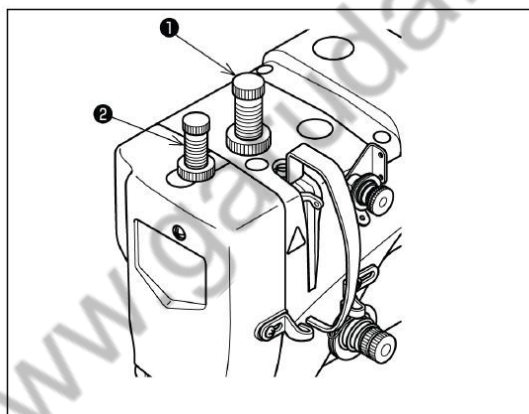

Fig.15
Adjust the presser foot pressure according to the sewing product. The pressure of the presser foot (1) and that of the walking foot (2) can be adjusted separately. Use the machine with the minimum pressure which is necessary. See fig.15.